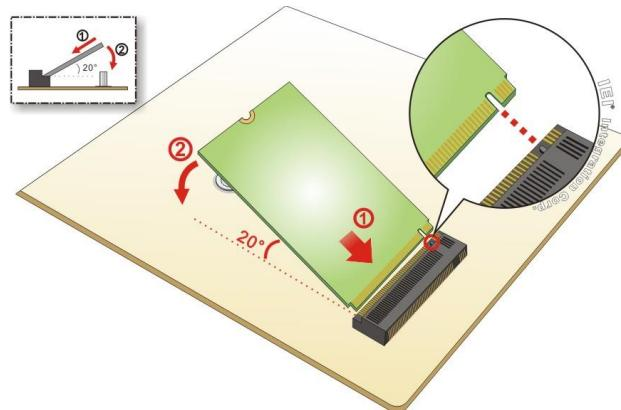

Figure 4-2: Inserting the M.2 Module into the Slot at an Angle
Step 3: Line up the notch on the module with the notch on the slot. Slide the M.2 module into the socket at an angle of about 20° (**Figure 4-2**).